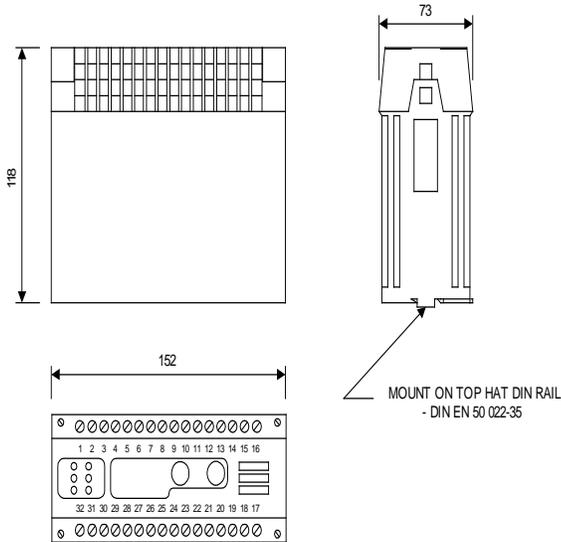

Figure 32 - BSRUA-2 Interface Unit Outline & Dimensions
Figure 32 shows the case size and mounting dimensions of the BSRUA-2 interface unit. All dimensions are in millimeters. The unit must be mounted in an enclosure rated for the known operating environment. In most cases, the unit will fit into an existing machine's control unit panel. The unit snaps onto a common electrical mounting rail, style DIN EN 50 022-35.
Figure 32 also shows the 32 integral connection terminals, in two rows along the top of the interface unit. The terminals are numbered 1 to 32. Each terminal is suitable for up to two (2) 2.5mm² (14 AWG) solid wires. Crimped ferrules or tinning must be used on all stranded wires.